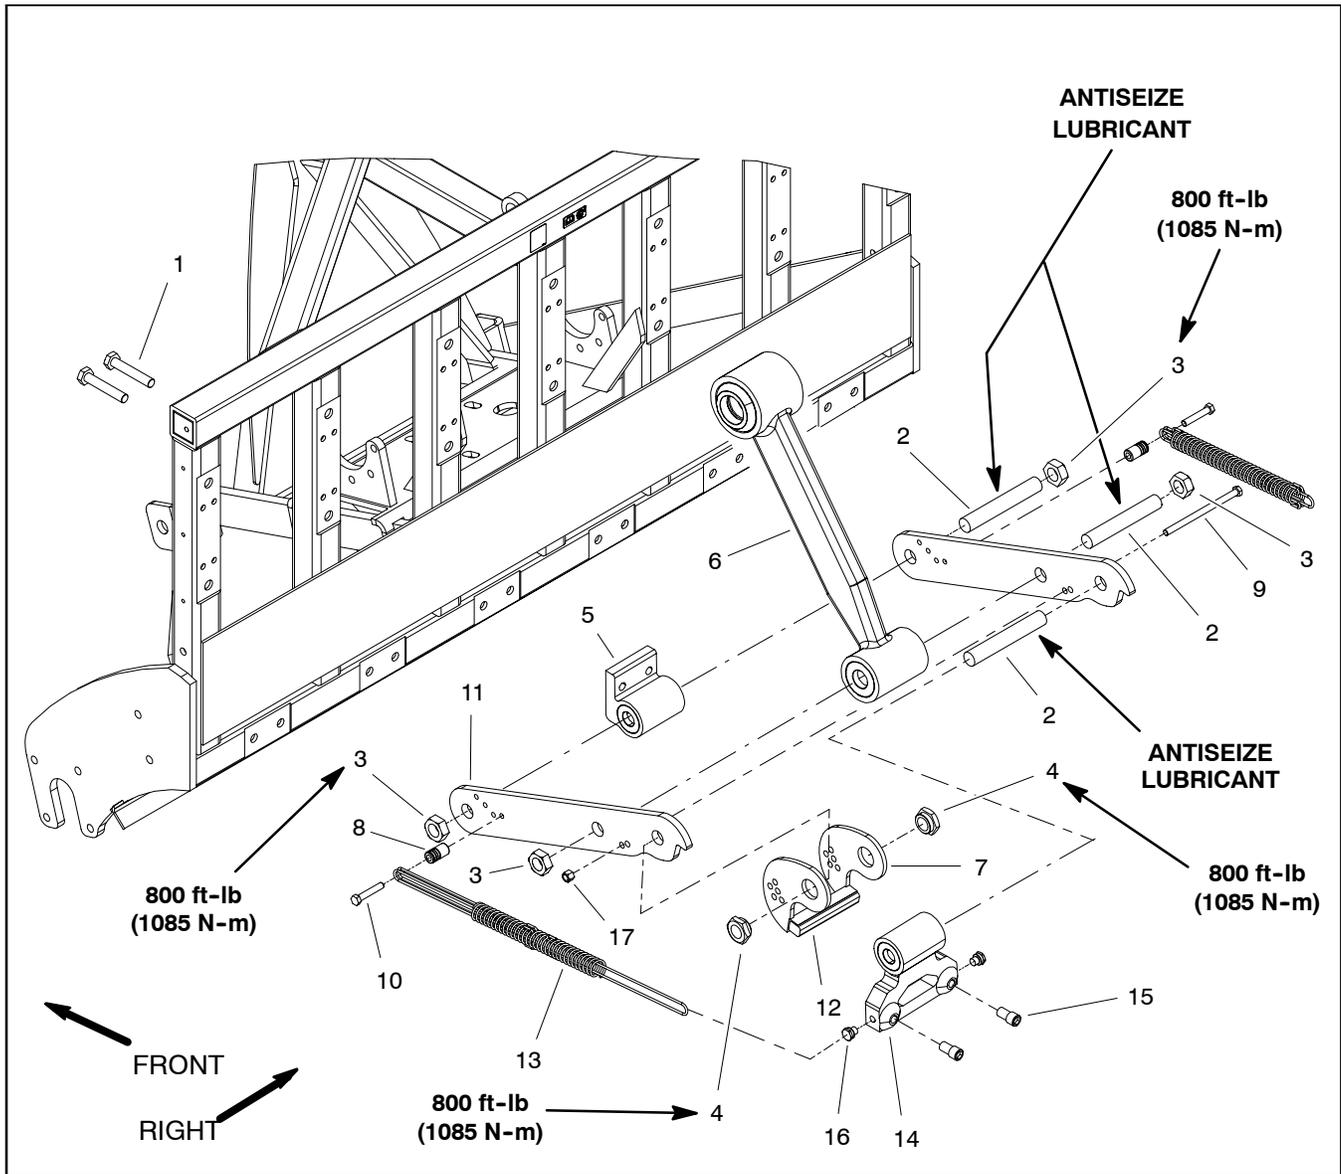
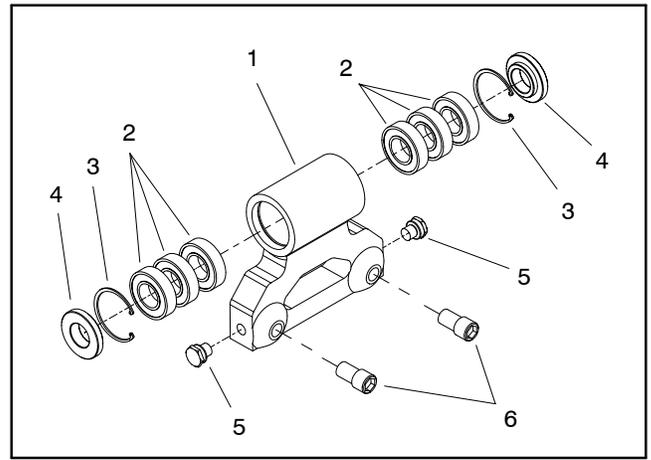
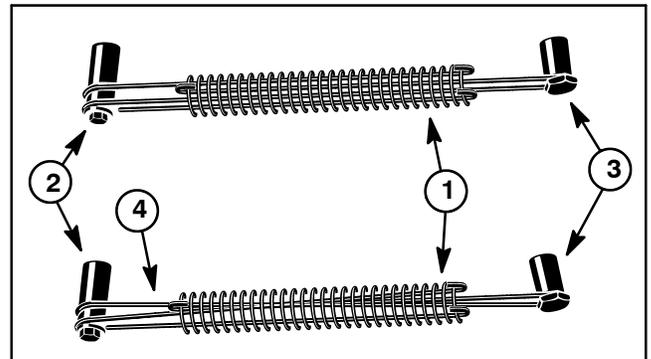

Figure 5
Figure 6
Figure 8
Disassembly (Fig. 5)
2. Remove both spring assemblies from rear spring post (item 8) and front spring holder (item 16).
3. Remove linkage arm components as needed using Figure 5 as a guide.
4. If necessary, disassemble tine head assembly using Figure 6 as a guide.
Assembly (Fig. 5)
1. If tine head (Fig. 5) or hinge assemblies (Fig. 6) were disassembled:
A. Install one (1) retaining ring into groove in bore. Make sure that retaining ring is properly seated in groove.
2. Apply antiseize lubricant to wrist pin (item 2).
3. Assemble linkage arm components using Figure 5 as a guide.
A. Torque lock nuts (item 3) and boss nuts (item 4) to **800 ft-lb (1085 N-m)**.
4. Make sure that spring wires are not broken or crossed (Fig. 8). Install both spring assemblies to rear spring post (item 8) and front spring holder (item 16).